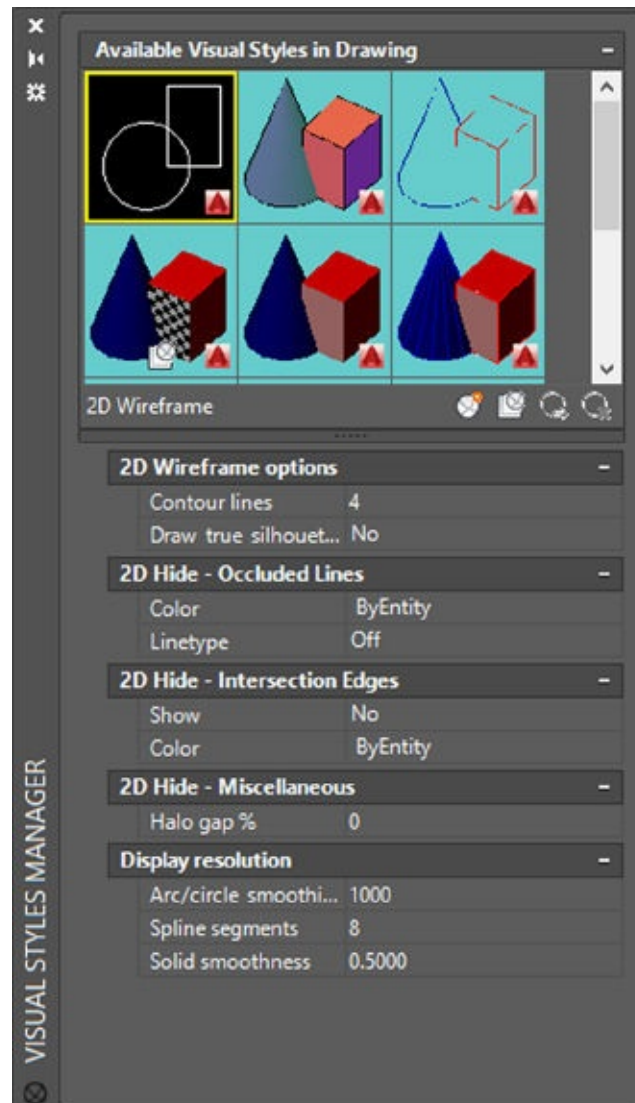

FIGURE 20.41 The Visual Styles Manager
1. Click the Visual Styles Manager from the Visual Styles drop-down. The Visual Styles Manager appears (see Figure 20.41). You can also enter **Visualstyles**↵. This palette looks similar to the Properties palette with the addition of thumbnail examples of the visual styles at the top of the palette.